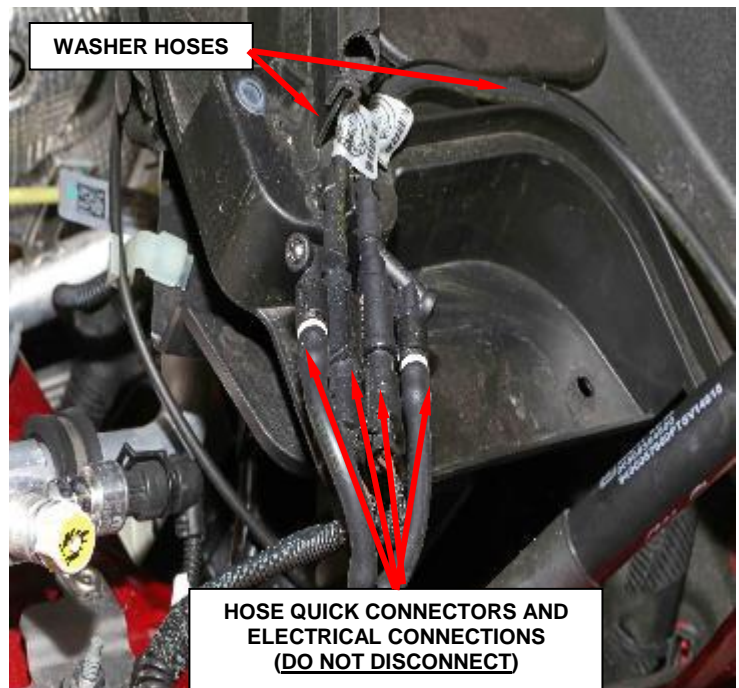

Figure 5 – Wiper Hoses and Electrical Connectors
d. Separate the washer hoses from the housing of the wiper arms (Figure 5).